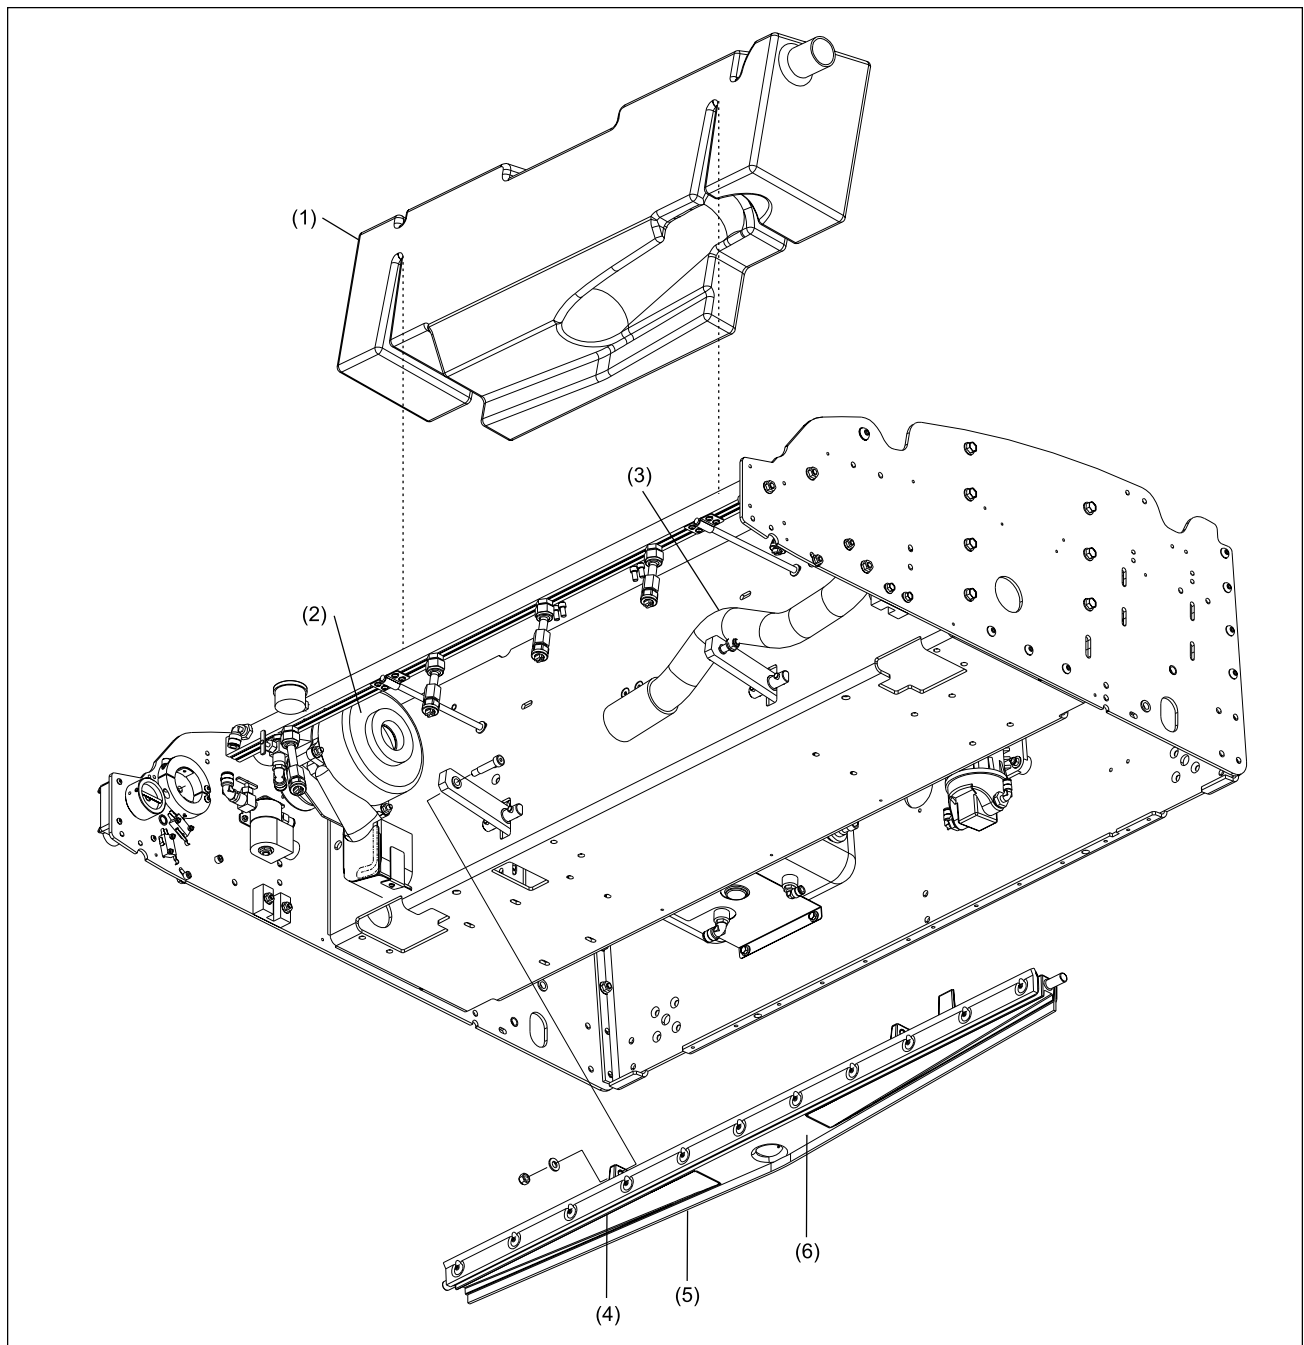

Figure 2-5. Cleaner Vacuum System - Bottom View
3. The **absorbent wiper** agitates the cleaning fluid on the lane to loosen dirt and old conditioner from the surface. Refer to Figure 2-5.
4. The **squeegee blade** channels waste fluid to the center of the **squeegee head assembly**. Refer to Figure 2-5.
5. All waste fluid is suctioned into the **waste recovery tank**. Refer to Figure 2-5.